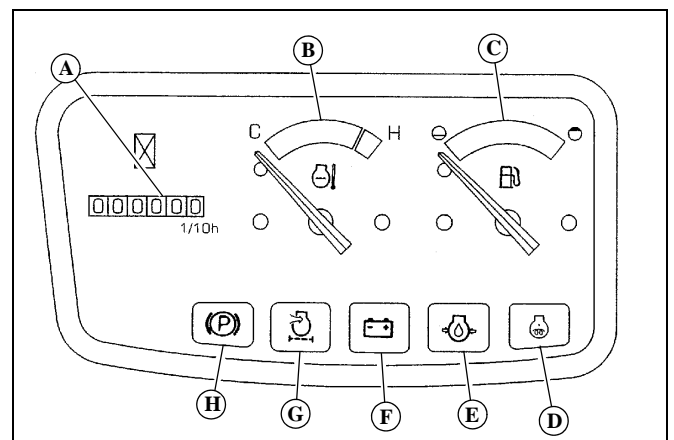

Figure 3-1
- A. **Electronic hour meter (Figure 3-1)** — Registers 1/10 hour increments up to 9,999.9 total hours. Connected to the ignition switch, the meter records the accumulative time while the ignition key is switched to the RUN position.
- B. **Temperature gauge and alarm (Figure 3-1)** — When the needle is in the middle area, the engine is at its normal operating temperature. When the needle reaches the “H” side of the gauge it indicates the engine coolant has reached an unsafe temperature. If this occurs, shut down the machine as soon as possible when safe to do so. Never risk continued operation; high temperatures can severely damage the engine.
- C. **Fuel gauge (Figure 3-1)** — This gauge indicates the amount of fuel in the tank.
- D. **Glo-plug warning light (Fig. 3-1)** — Comes on when turning the key switch to the “HEAT” position or “START” position. This light will stay on for approximately 5 seconds in the “HEAT” Position.
- E. **Oil pressure warning light and alarm (Fig. 3-1)** — This light comes on when the ignition switch is placed in the “RUN” position and stays lit until the engine is running and a safe oil pressure is developed. If light comes on during operation, shut engine off immediately and locate and correct the problem when safe to do so. When oil pressure falls below 4.25 psi (29.4 kPa), the alarm buzzer will sound. **IMPORTANT:** The operator must occasionally check the crankcase for proper oil level.
- F. **Charge indicator warning light (Figure 3-1)** — This light comes on when the ignition switch is placed in the “RUN” position and stays lit until the engine is running. If it remains lit the charging system is not operating normally. Investigate the cause as soon as possible, otherwise the battery will fully discharge.
- G. **Air cleaner restriction warning light (Figure 3-1)** — When the air cleaner element is clogged by foreign substances, such as dust, and clean air is restricted to the engine, this light will illuminate. Refer to the *Engine Air Filter* section of this manual for detailed information.
- H. **Parking brake warning light (Figure 3-1)** — This light